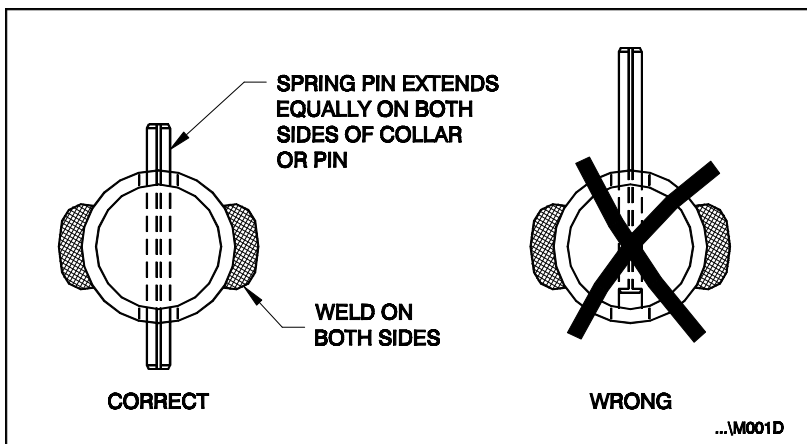

Figure 7: Spring Pins
2. Check for presence and proper seating of all spring pins on all axles, cylinders and rollers. Confirm that all welds on the spring pin collars are intact. (See "Figure 7: Spring Pins" on page 15)